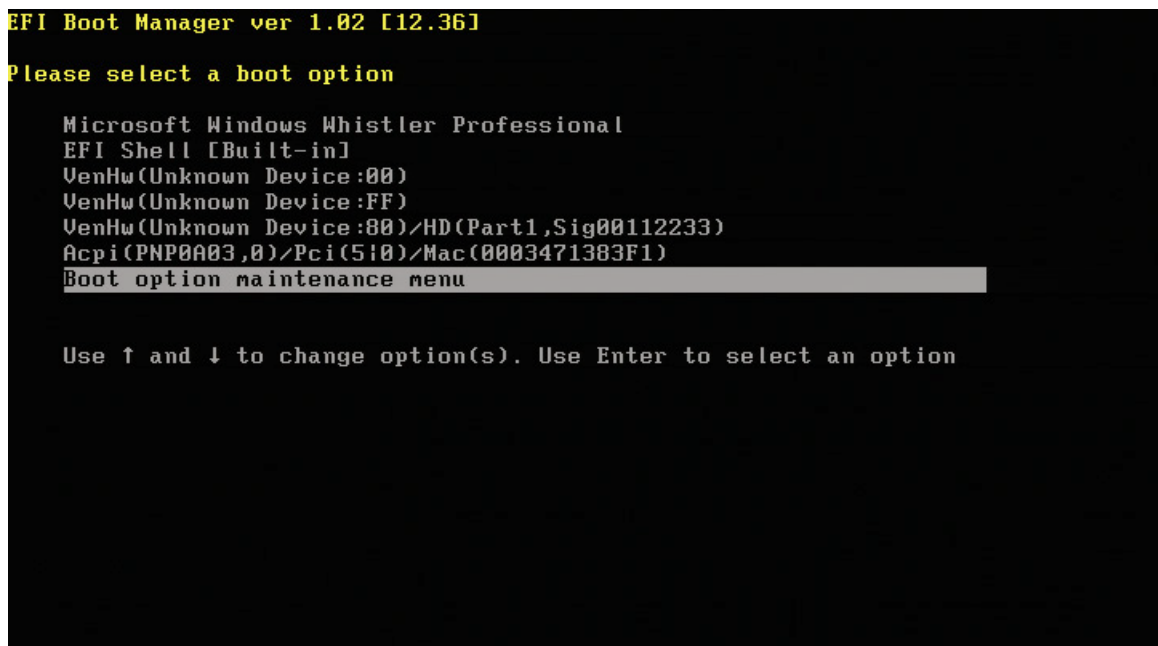

Figure 3-15 EFI Boot Manager Prompt
4. The system boot manager will display a screen similar to that shown in Figure 3-15.